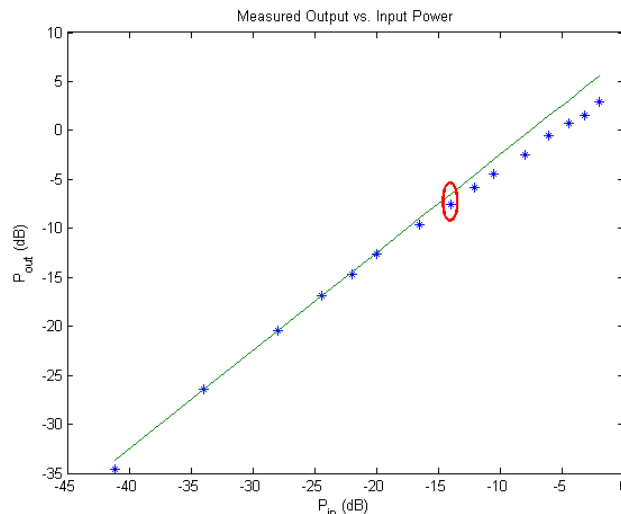

Figure 2: Plot of Output Signal Power (dB) vs. Input Signal Power (dB)
e) In the same m-file, use the *figure()* command to assign figure(1) to the plot above and figure(2) for a new plot. The new plot will look like Figure 2 below and will plot the output signal power vs. the input signal power, both in dB relative to a 1 Ohm resistor.
- First use the *polyfit* command in Matlab to fit a line to only the data **that are to the left of** the 1-dB compression point (as these are considered the "small-signal" inputs so that the amplifier is behaving linearly). This line will become the green line shown in Figure 2 below. For the *polyfit* command, use $|v_{in}|$ (in units of Volts) as your x-coordinates and $|v_{out}|$ (in units of Volts) as your y-coordinates. *Polyfit* returns the coefficients of a 1st order polynomial (i.e. a line).